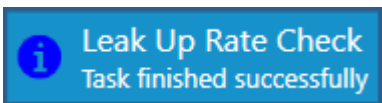

Figure 4-20 Leak test finished
- 5 Wait until the leak test finishes. The Status panel returns to normal and a **Task finished successfully** panel displays for a short time at the bottom right of the page, see Figure 4-20.